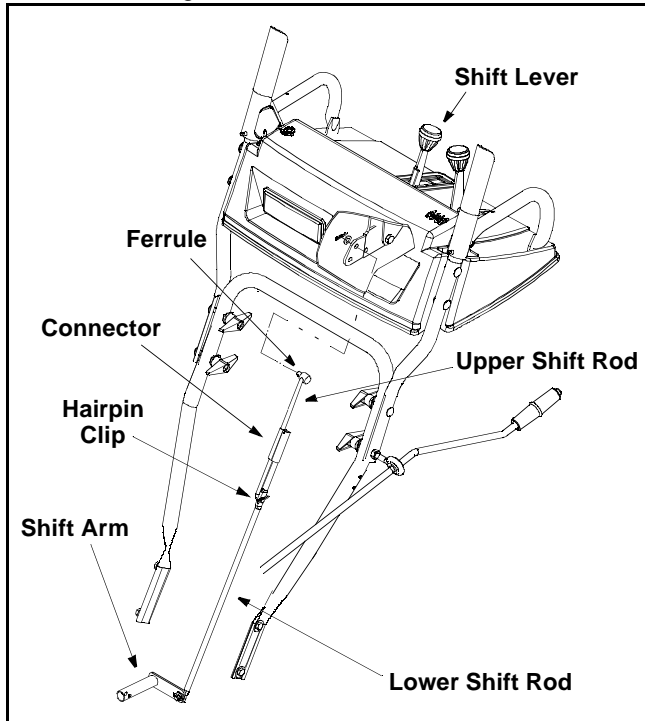

Figure 11
- Remove the hairpin clip and slide the connector up to separate the upper shift rod from the lower shift rod. See Figure 11.